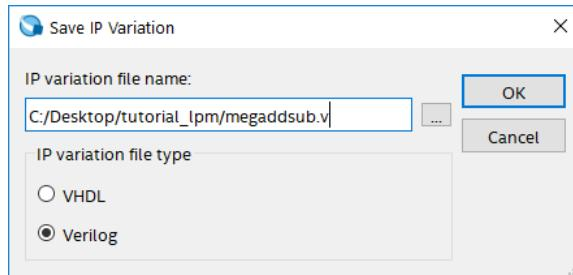

Figure 5. Create an LPM from the available library.
3. In the pop-up box shown in Figure 5, choose **Verilog** as the type of output file that should be created. The output file must be given a name; choose the name *megaddsub.v* and indicate that the file should be placed in the directory *tutorial_lpm* as shown in the figure. Press **OK**.